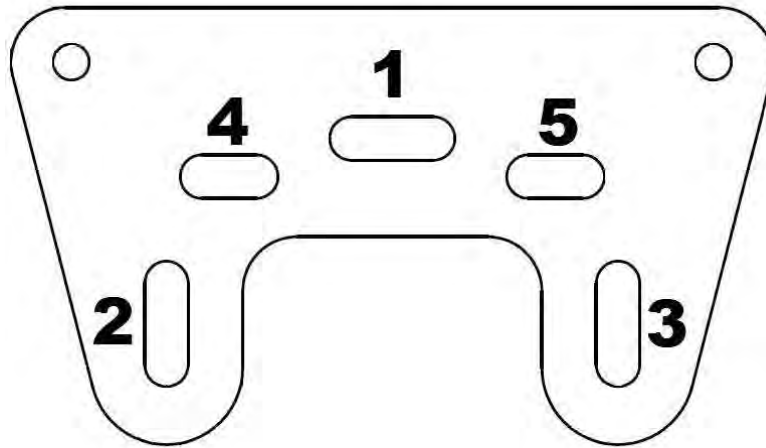

Fig.4
5. Using the $\varnothing 10$ drill, drill the holes for the mounting dowels in the marked places. The holes should be drilled in the correct order, starting with the hole marked on the template with the number 1 **(Fig.4)**. After drilling the hole 1 correctly, move to drilling holes 2 and 3. Then, drill holes 4 and 5. Repeat for the opposite side.